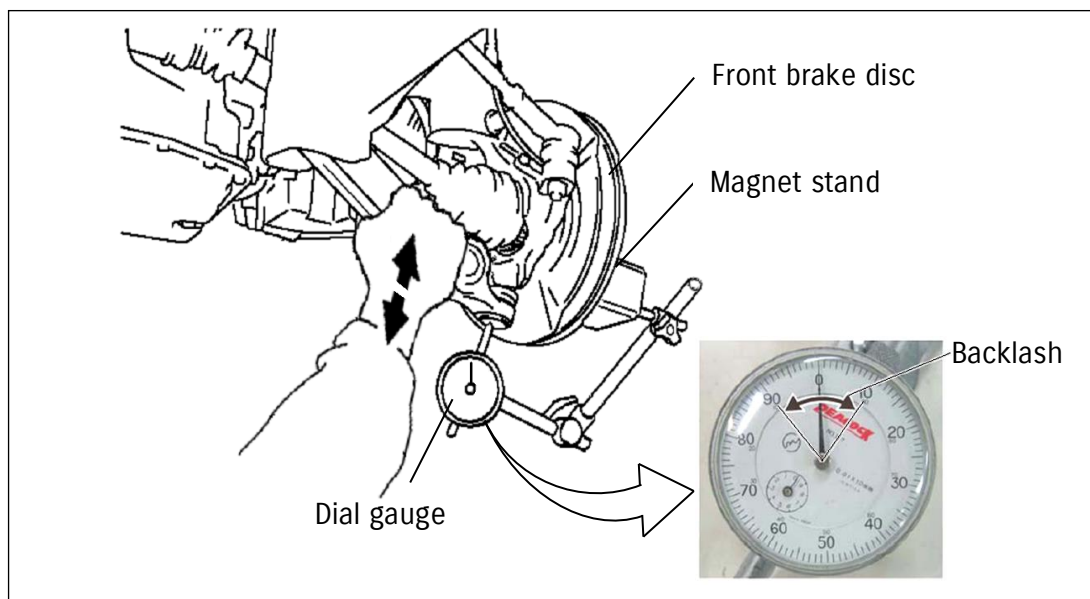

Fig.3 Dial gauge setting
the center of the bottom face of the suspension lower arm ball joint. It must also be placed at a right angle to the bottom face. [Fig.3]
- 4) Rotate the scale plate to the zero-position without loading to the suspension lower arm. [Fig.3]
- 5) Push near the ball joint part of suspension arm to up direction of the vehicle by hand (with approximately 20 – 30N), and hold it for 2-3 seconds while measuring the value of the dial gauge. It shows the amount of backlash in the upward direction. [Fig.3]
- 6) Pull near the ball joint part of suspension arm to down direction of the vehicle by hand (with approximately 20 – 30N), and hold it for 2-3 seconds while measuring the value of the dial gauge. It shows the amount of backlash of downward direction. [Fig.3]